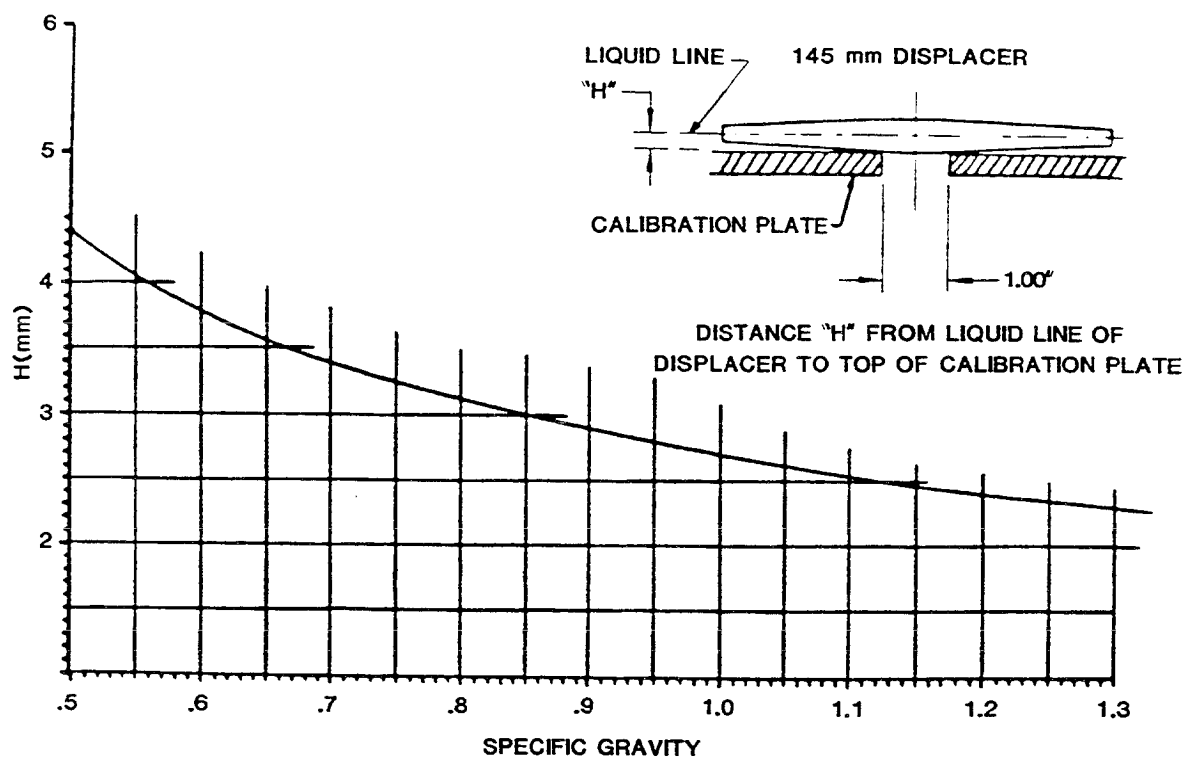

Figure 4-4 145 mm (5.7 in) Displacer Immersion Chart
- o Dimension "H" - The immersion depth of the displacer. This varies slightly based on the specific gravity of the product and the displacer size. Refer to Figure 4.4, 4.5, or 4.6, Displacer Immersion Chart, to determine dimension "H" of the displacer in service on the servo gauge being calibrated.